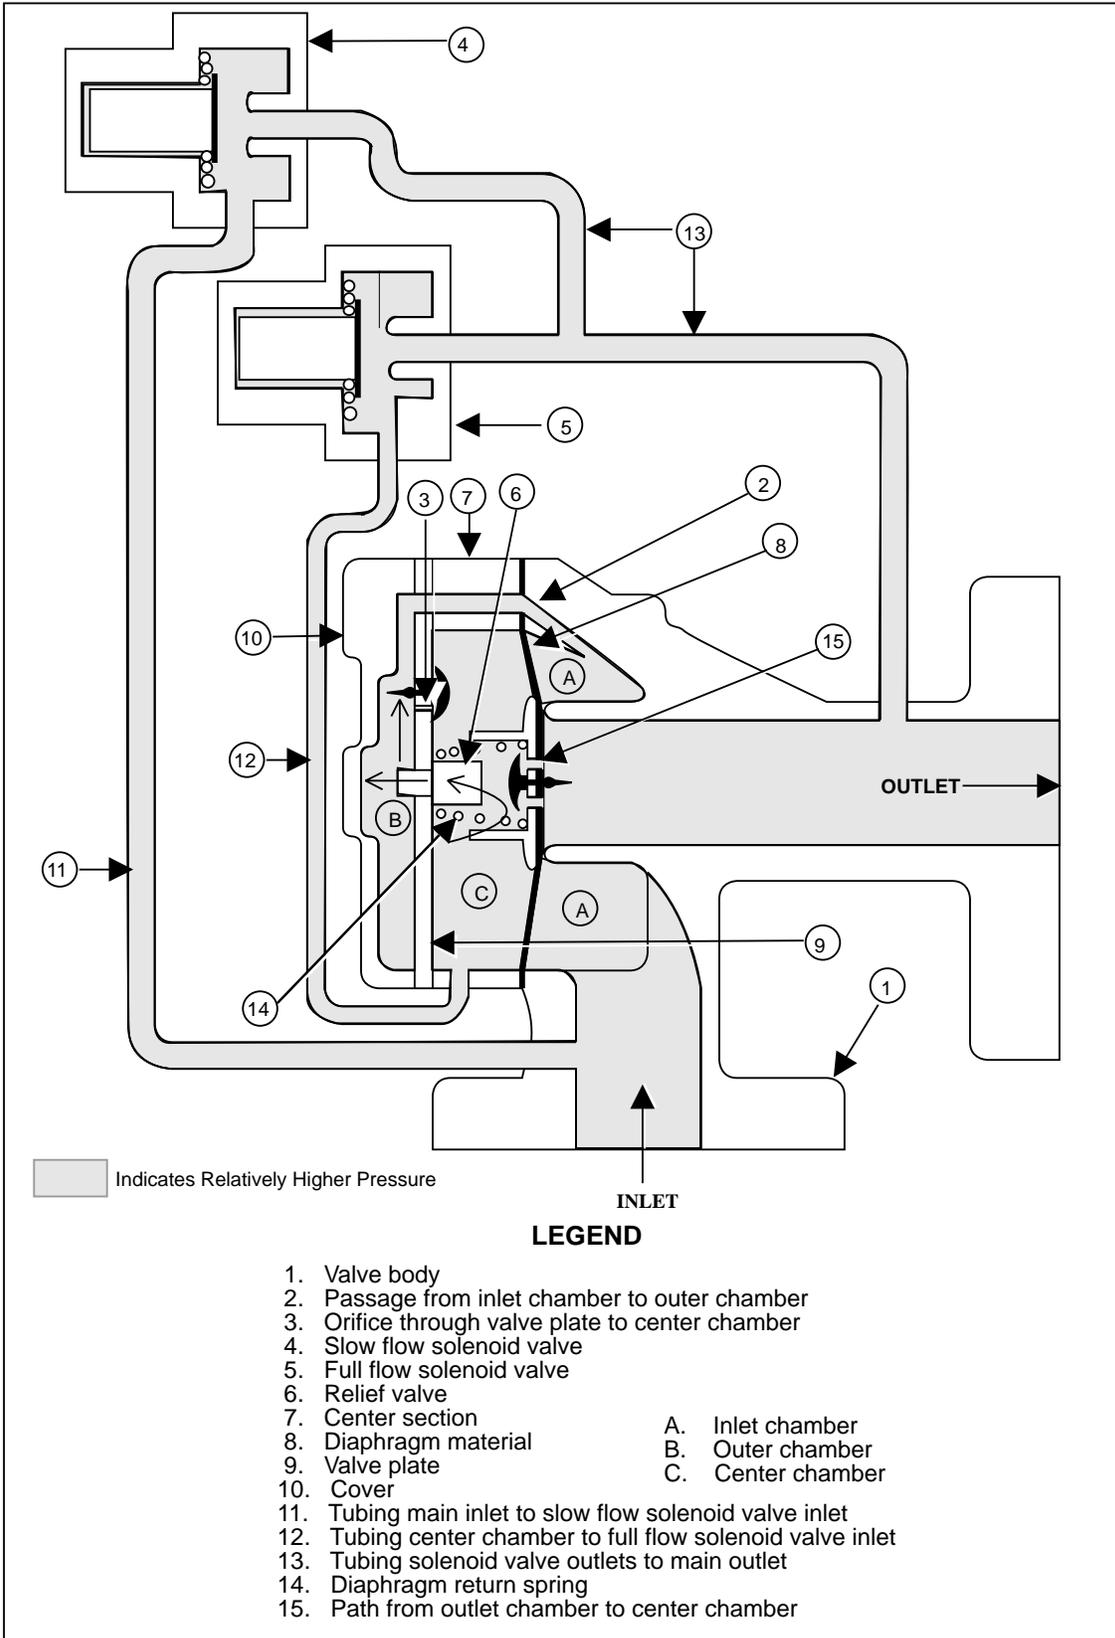

FIGURE 5-11. OLD STYLE FLOW CONTROL VALVE RELIEVING BACK PRESSURE
5.3.5. Unit Relieving Back Pressure (see Figure 5-11)